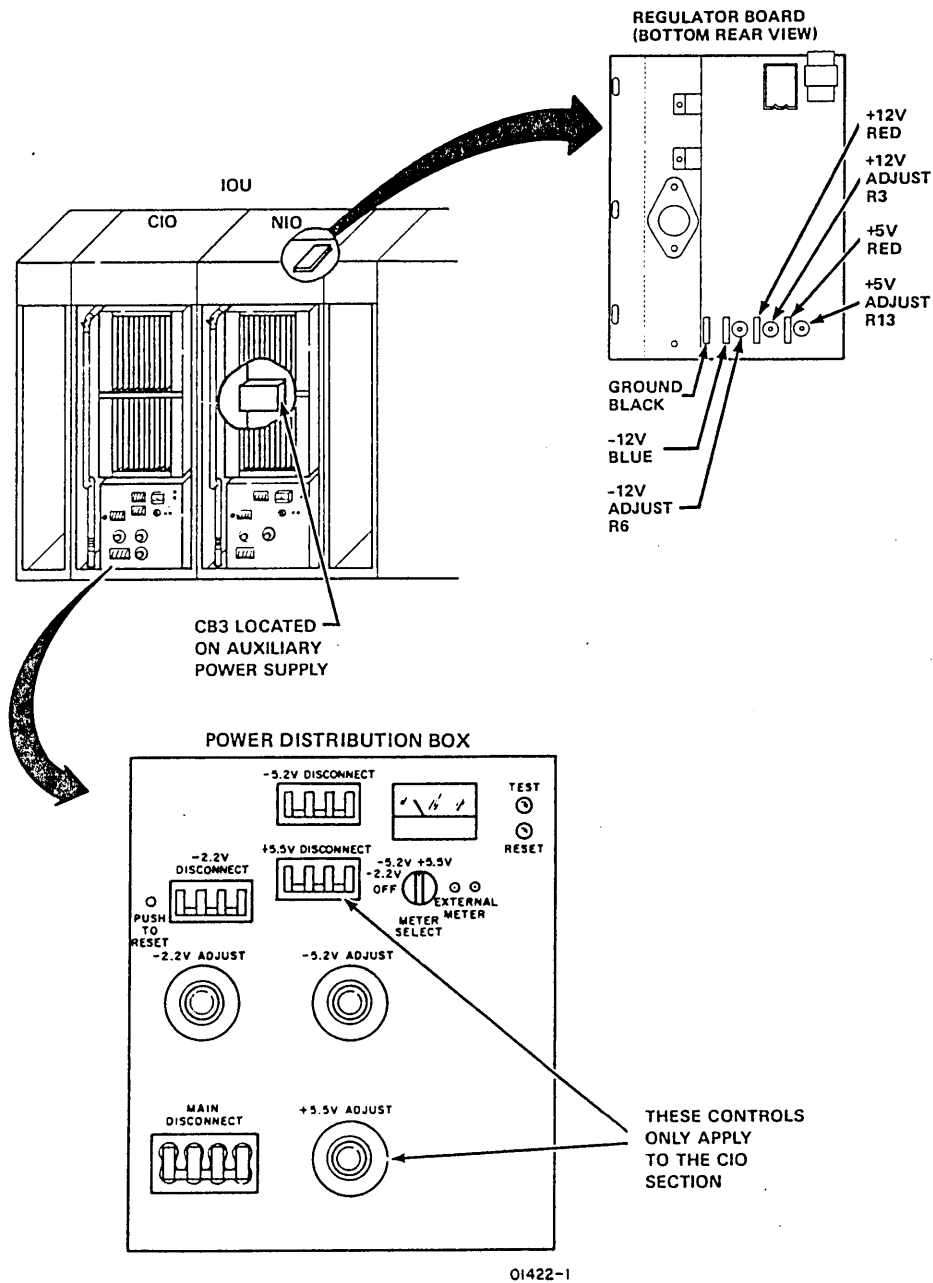

Figure 3-44. IOU Power Controls and Adjustments
- ___ a. Connect multimeter to ground and +5 V test points on auxiliary power supply regulator board near top and rear of NIO section (figure 3-44).
- ___ b. Reconnect multimeter to ground and -12 V test points on regulator board (figure 3-44).